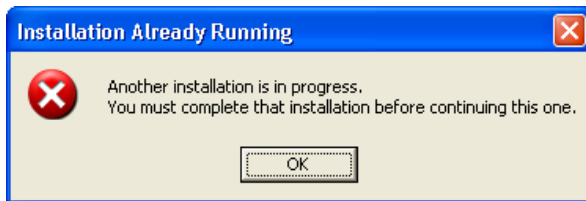

Figure 32. Installation Already Running Dialog Box (Click OK)
- b. **Installation Already Running dialog box (Figure 32):** Click **OK** to continue.